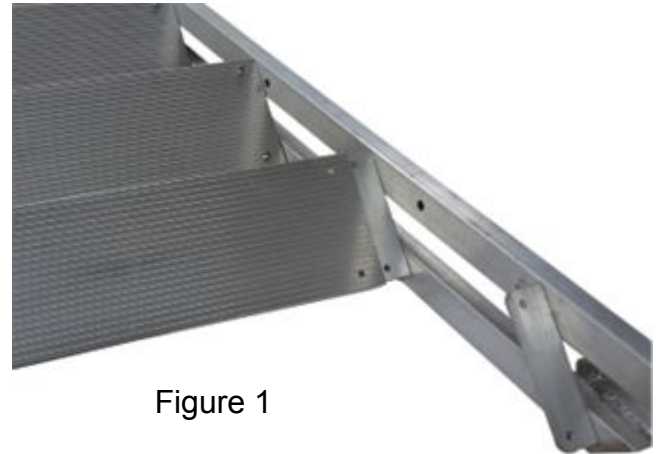

Figure 1
- 1 Connect all Steps (B) to Left and Right Stair Stringers (A) using M6x20mm Button Head bolt with nylock nuts. Attach all steps to one Stair Stringer first then attach second Stair Stringer. See Figure 1.